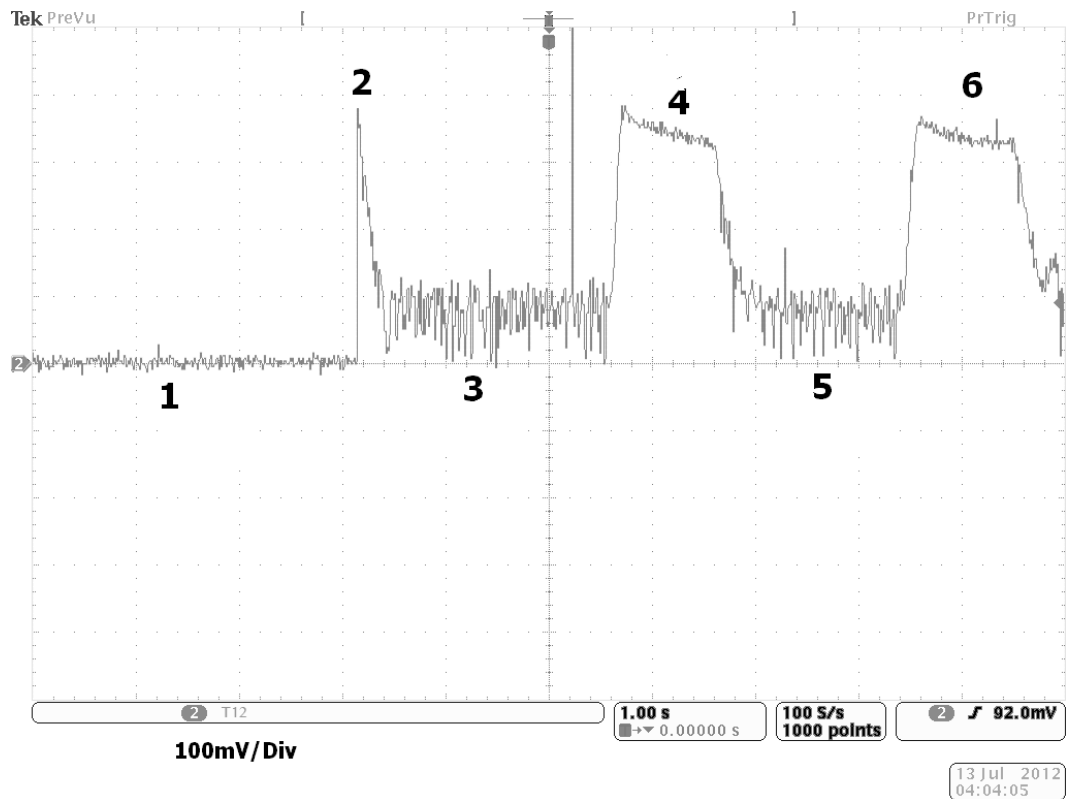

Figure 4.13: T12 Voltage
- In figure 4.13 what is the maximum current draw of the motor.